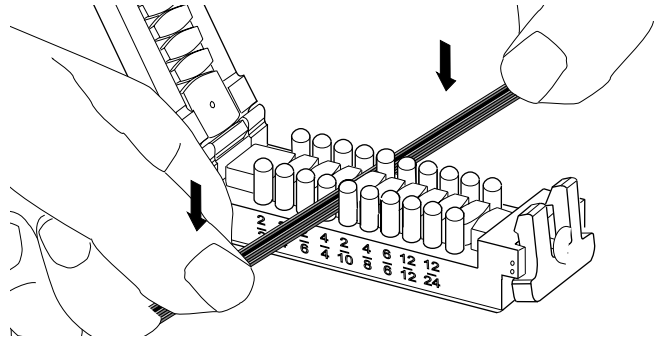

Figure 8
Step 2: To load an open tool, position the ribbon in the appropriate channel at its marked separation point or a 0.5-meter mark, whichever is closest to the end of the ribbon (Figure 8). Close the lid. Skip to step 4.
- Step 2:** Position the ribbon in the appropriate channel at one of its marked end points (see Figure 8). Close the lid.